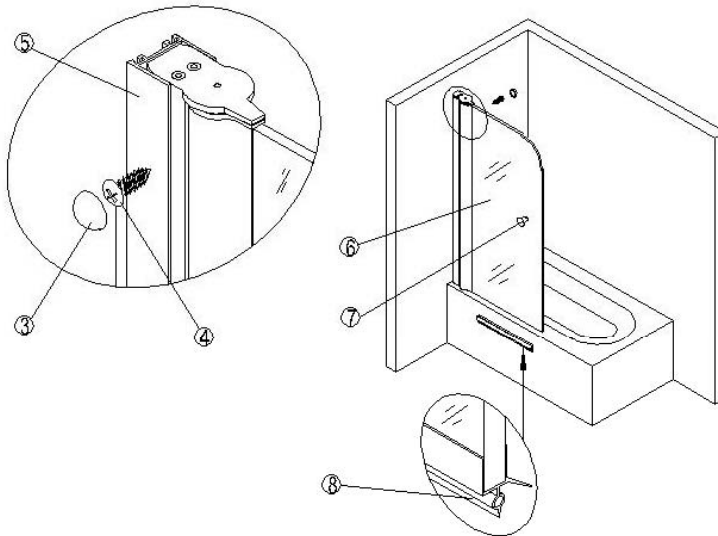

Fig.3
Step2. Attach the glass screen (#6 in PL) to the wall profile (#5 in PL) and level it. Screw them tight with ST4*12 screw (#4 in PL) and put screw cap (#3 in PL). Install door handle (#7 in PL) and bottom watertight strip (#8 in PL) to the glass screen (#6 in PL). See fig.3